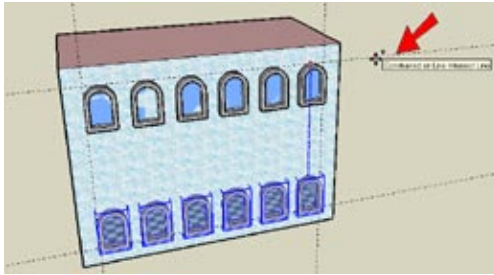

Figure 1-30
11. Start to move the copy up vertically (blue direction), and press and hold the Shift key to lock in the blue direction. With Shift pressed, click anywhere on the top construction line (Figure 1-30).